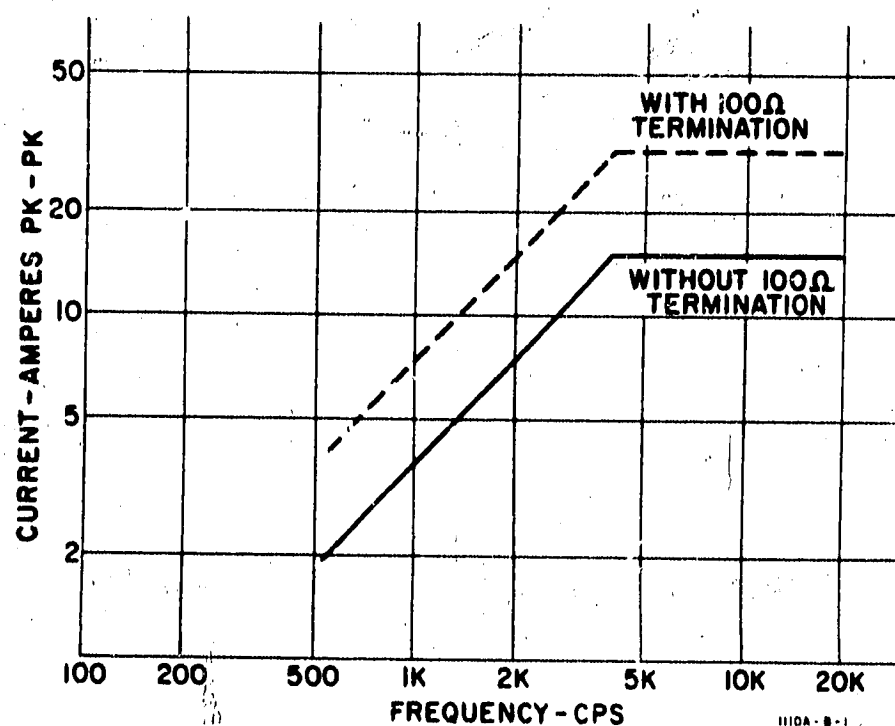

Figure 2. Maximum AC Current
17. **Peak Current.** The peak current which the probe will accept is determined by both probe head saturation and heating at high frequencies. Figure 2 shows a plot of maximum current vs frequency.